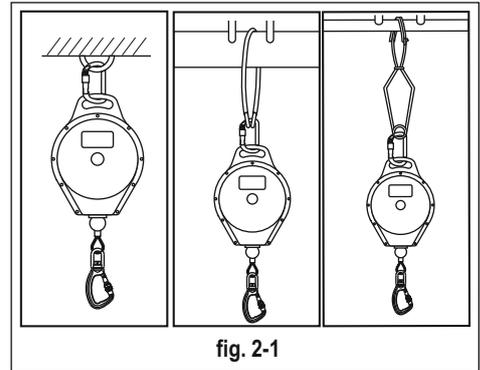

fig. 2-1
**Anchor device or anchor point** should always be positioned correctly, and the work carried out in such a way as to minimise both the potential fall and potential fall distance. The structural anchor point should be placed above the user's position, should have stable structure and its shape shall not allow to self-acting disconnection. The minimal strength of the structural anchor point should be not less than 12kN. It is recommended to use certified and marked structural anchor or device, conform to EN795 standard. Connecting the fall arrester to a structural anchor point should be done by joining the arrester handle to a structure with the aid of the AZ017 connector or sling complying with EN362 or EN795 standards (fig.2-1).
The CRW300 may be attached to a stable structural element of minimal strength not less 12kN. The device connection to the structural anchor should be done with the aid of a connector (ref. AZ017) or sling complying with EN362 or EN795 standards (fig.2-1). The CRW300 may be attached to a tripod's head (suspended in vertical orientation) or installed on tripod's leg. [see **UTILIZATION WITH A TRIPOD**]